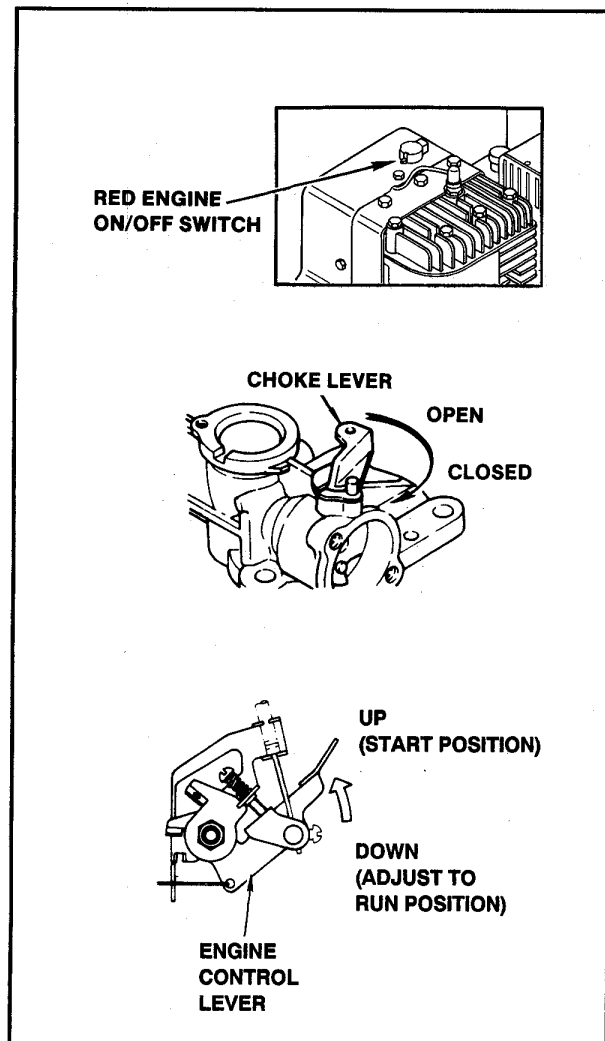

Figure 3. Kawasaki Engine Controls
- Turn the engine ON/OFF switch to the "ON" position. (See Figure 3.)